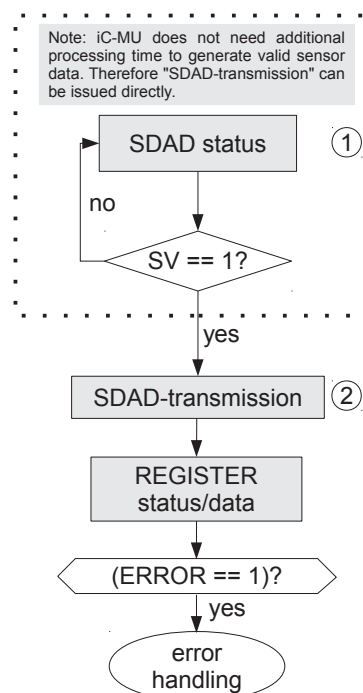

Figure 27: Example sequence of the commands SDAD Status/SDAD-transmission
Figure 27 shows the interaction of the two commands **SDAD Status** and **SDAD transmission**. It is not necessary to start each sensor data communication with the command **SDAD Status** (1). iC-MU has no processing time and can therefore directly output valid sensor data. Because of that the command sequence can start